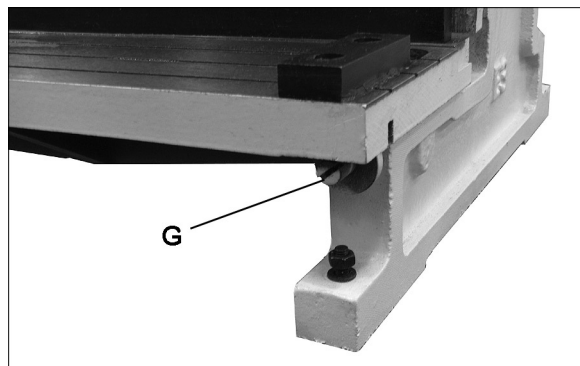

Figure 9
3. Rotate the adjusting screws (G, Figure 9) to shift the table and change the gap between blades. **Do not allow the blades to overlap.**